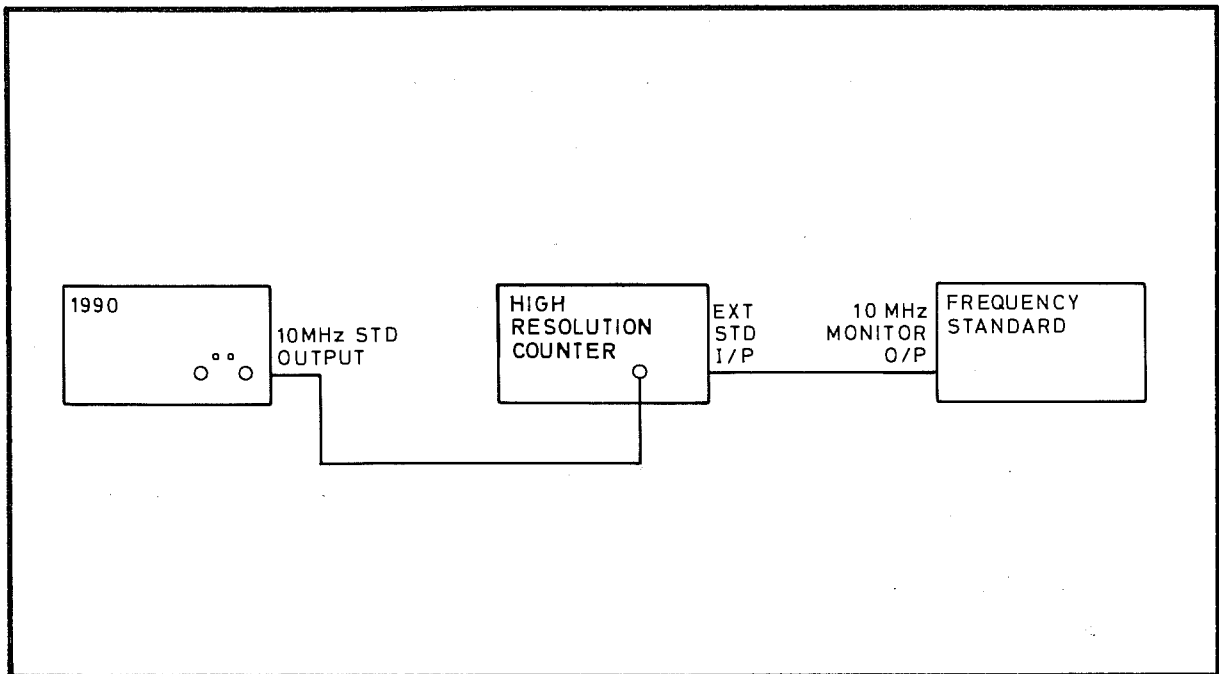

Fig 7.16 Connections for Internal Frequency Standard Adjustment :
- (1) Switch on the 1990. Allow the instrument to warm up for 24 hours before making any adjustment
- (2) Connect the test equipment as shown in Fig 7.16.
- (3) Set up the high resolution counter for an external frequency standard, and a resolution of 9 digits.
- (4) Adjust the frequency standard on the 1990, via the aperture in the rear panel, to be as near 10 MHz as possible. The display limits are shown in Table 7.5